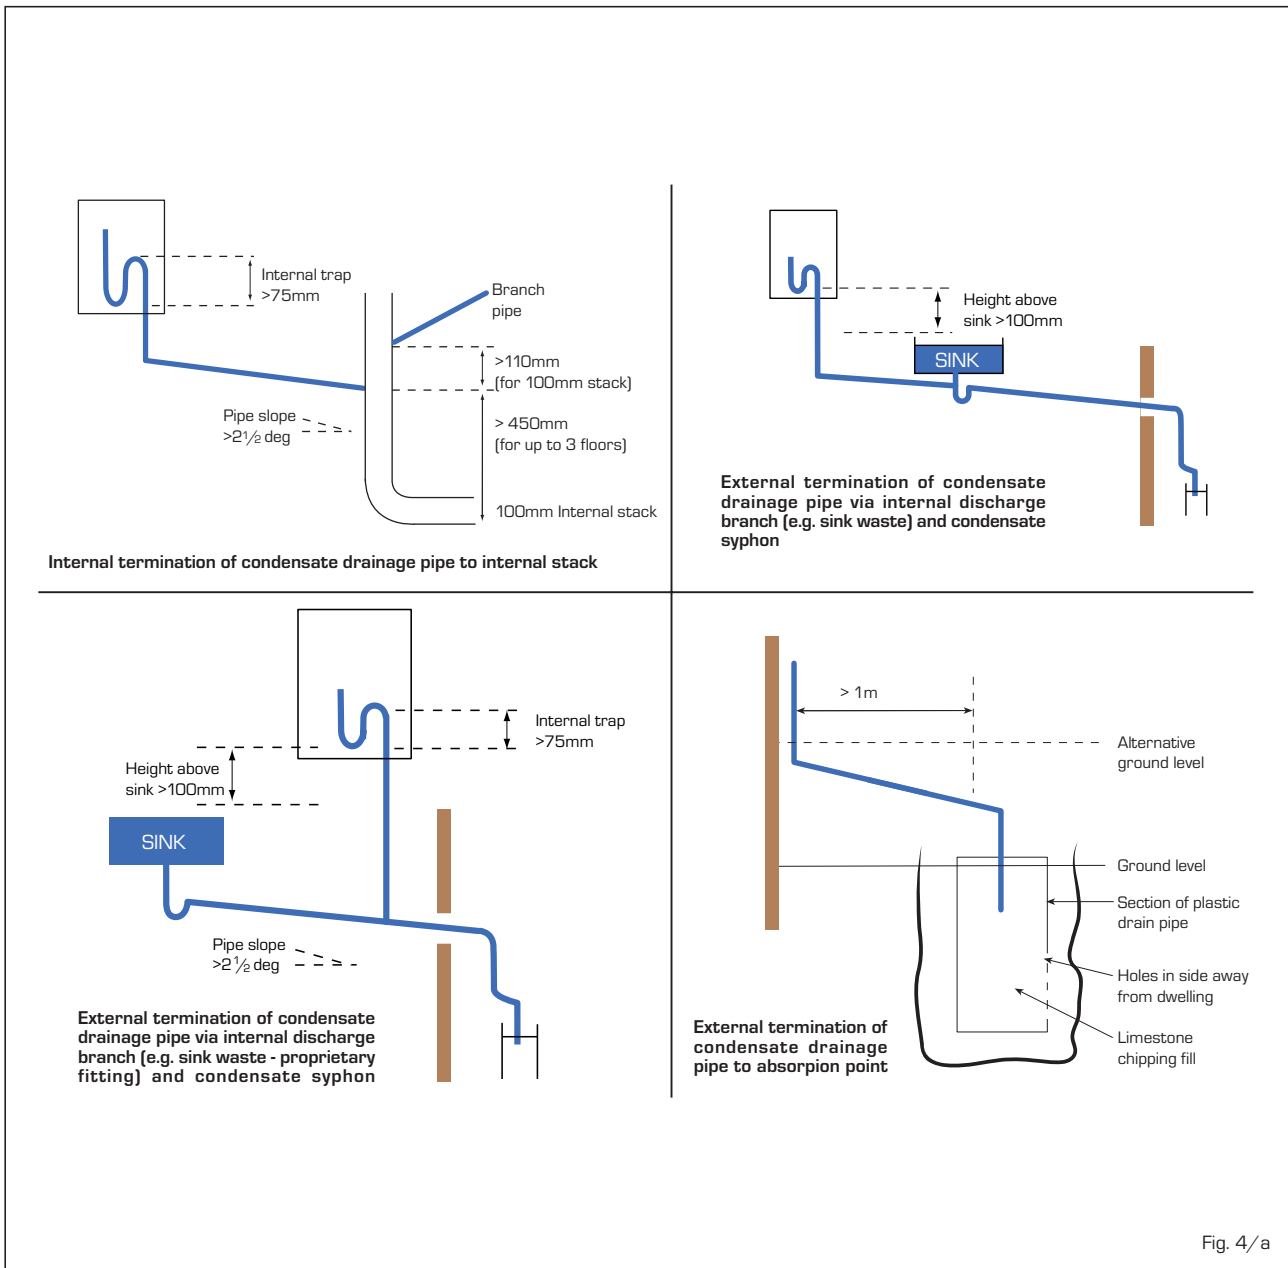

Fig. 4/a
- c) The appliance is equipped with an internal by-pass that operates with system heads (H) greater than 3 m. The maximum flow through the by-pass is about 300 l/h. If thermostatic radiator valves are to be installed, at least one radiator should be without a thermostatic valve (usually the bathroom radiator).
- d) A sealed system must only be filled by a competent person using one of the approved methods shown in fig. 4/b. The system design should incorporate the connections appropriate to one of these methods.